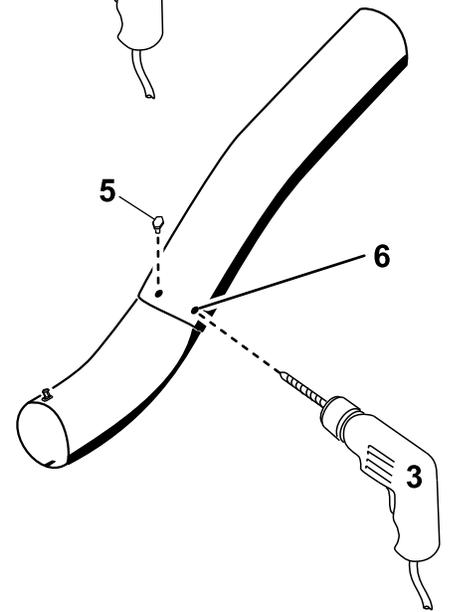

**Figure 29**
11. Pull the upper tube out slightly so that the seal extends outward and over the lower tube (Figure 29).
20. Pull the upper tube out slightly so that the seal extends outward and over the blower assembly (Figure 29).